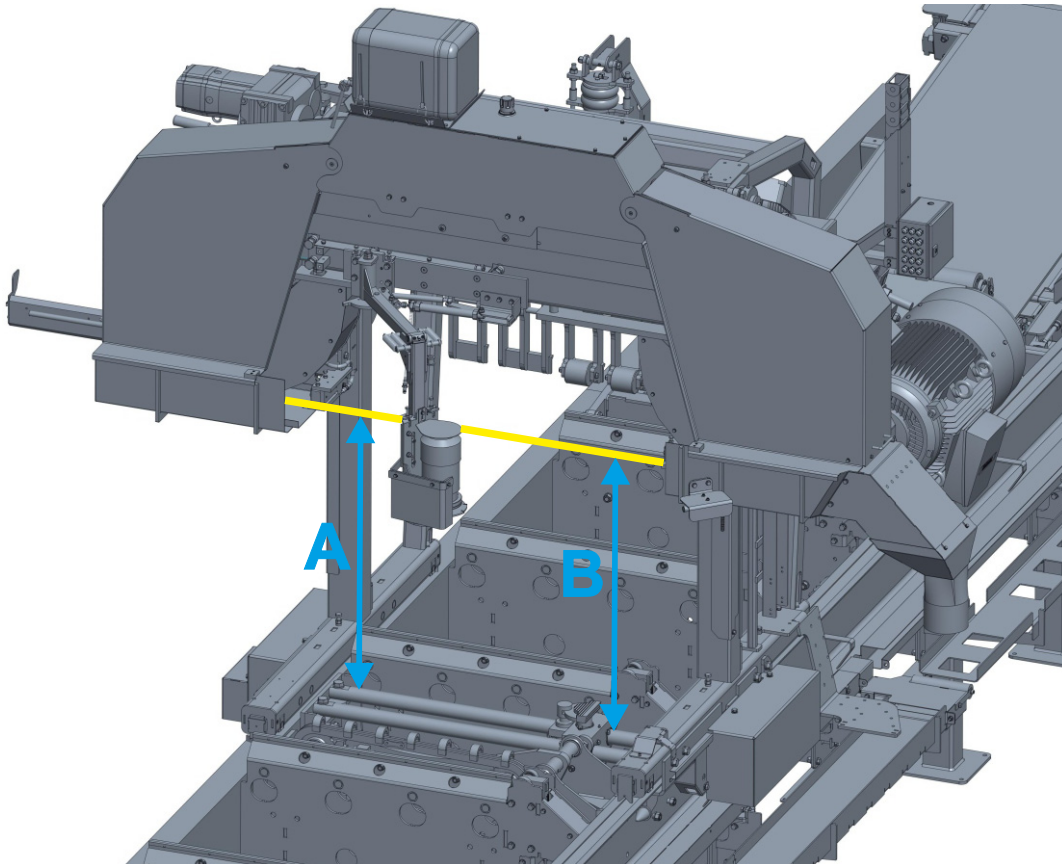

FIG. 5-7
See Figure 5-7 Make sure the blade guide blocks do not touch the blade. Position the saw head over the log clamp. Measure the distance from the rod of the blade clamp near the left (A) and right (B) blade guides. The measurements should be the same. If not, it is necessary to adjust the saw head tilt.